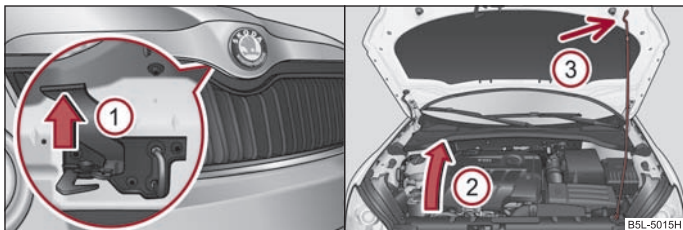

Fig. 13 Radiator grille: Locking lever/securing the bonnet with the bonnet support
- Pressing on the locking lever in direction of arrow ① ⇒ fig. 13 will unlock the bonnet.
- Take the bonnet support out of its holder in direction of arrow ② and secure the opened bonnet by inserting the end of the support in the opening ③ designed for it ⇒ fig. 13.